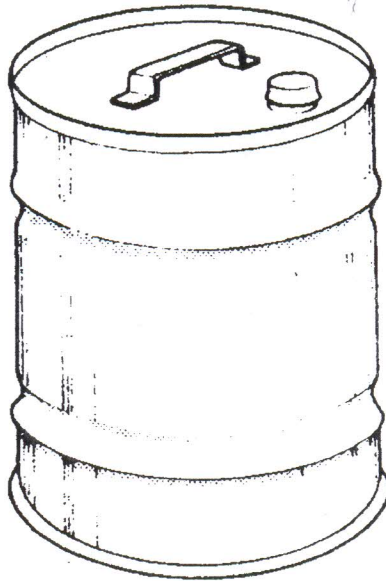

Figure 4: Drum
- (c) According to Figure 4(drum), identify and explain briefly the type of stiffener that is applied on the body of the drum.